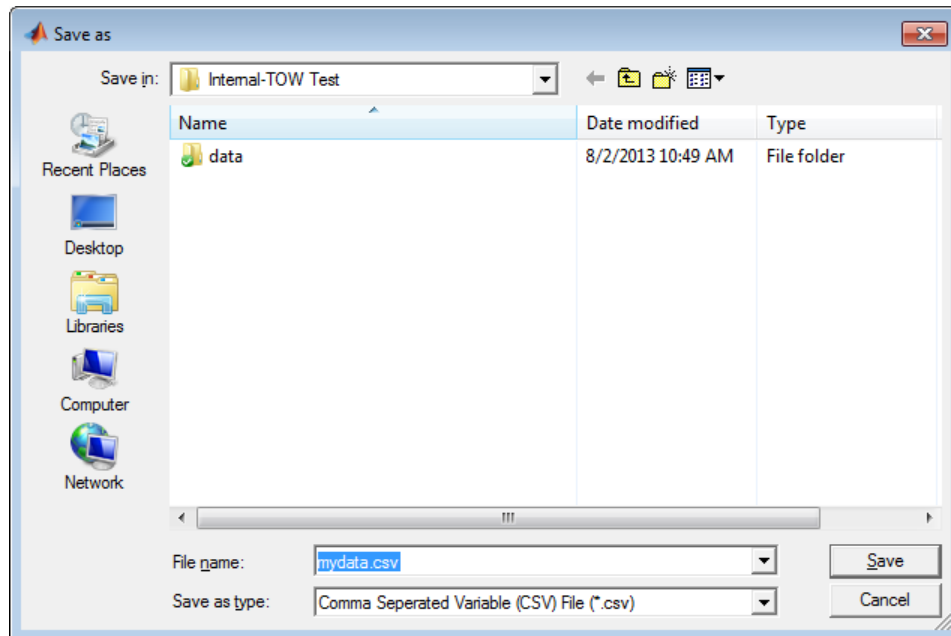

Figure 5.6: Downloaded data file types.
- ✓ **Step 5.13** Wait for all of the data to download. Once the data is finished downloading another dialog box, similar to that in Figure 5.6, will pop up to save the data on the local drive.
- ✓ **Step 6.7** Click File > Close... from the plot menubar. This can also be achieved by closing the plot window by clicking the close window button located on the titlebar. If any measurements were received a dialog box, similar to that in Figure 5.6 on page 21, will popup to save the data on the local drive.